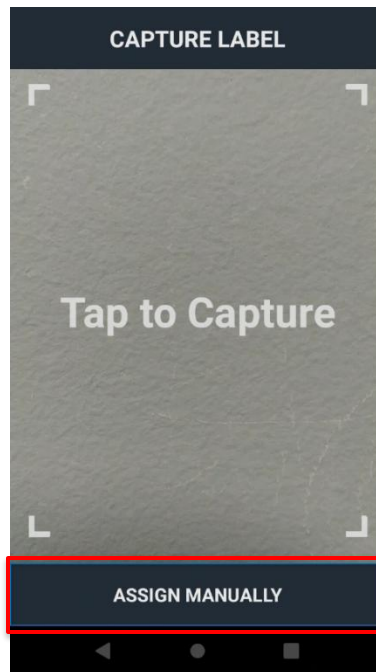

Figure 25: Tap Assign Manually to search for a recipient
The Capture Package Label screen appears, see Figure 25.
3. Tap **Assign Manually**. See Figure 25.